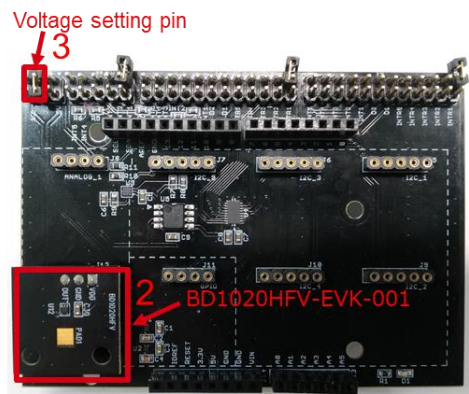

Figure 2. Connection between BD1020HFV-EVK-001 and the SensorShield
2. Connect BD1020HFV-EVK-001 to the socket of Analog area on the SensorShield (Figure 2)
3. Set Voltage of the SensorShield to 3.0V or 5.0V (Figure 2)